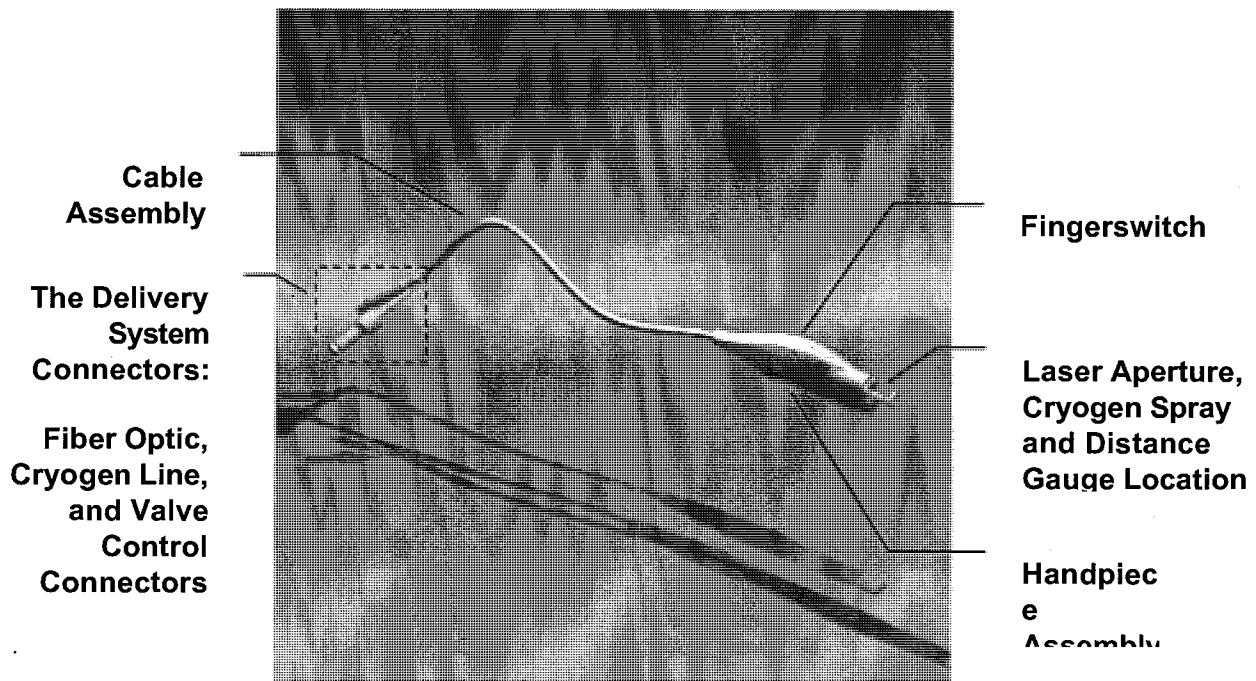

Figure 2: Delivery System and Handpiece Assembly
- 7.1. Refer to figure 2 above for distance gauge location.